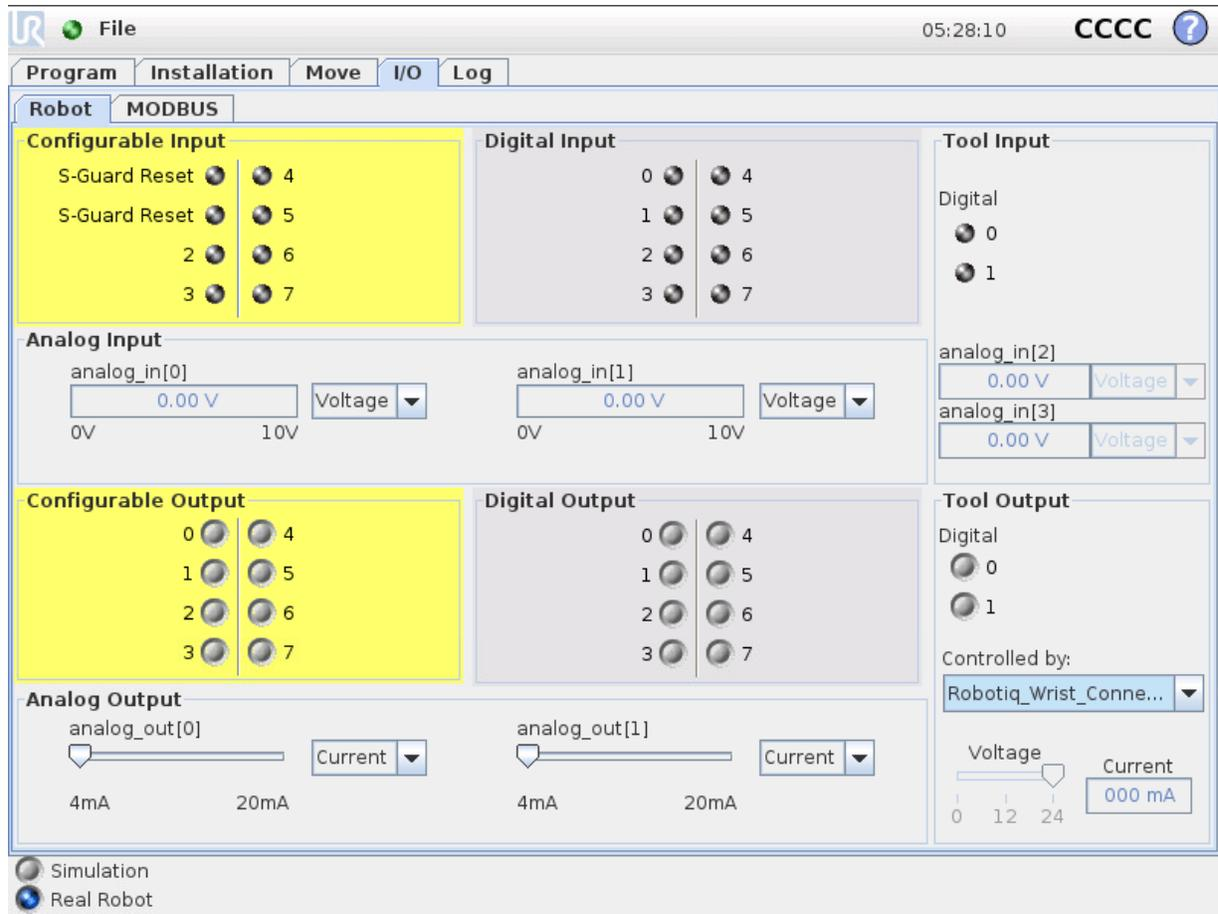

Fig. 3-9: Changing the Voltage at the Tool Flange
5. In the I/O Tab, go in the **Tool Output** section. In the **Controlled by** dropdown menu, select **Robotiq_Wrist_Connection**. The voltage will automatically change to 24 V, as shown in Fig. 3-9.
7. Delete any Gripper URCaps on the robot. Install the URCaps on the UR robot. When the gripper will be connected to robot, the gripper firmware can be updated if needed. In the **I/O** tab, go in the **Tool Output** section. In the **Controlled by** dropdown menu, select the **Robotiq_Wrist_Connection**. The voltage will automatically change to 24 V, as shown in Fig. 3-9.